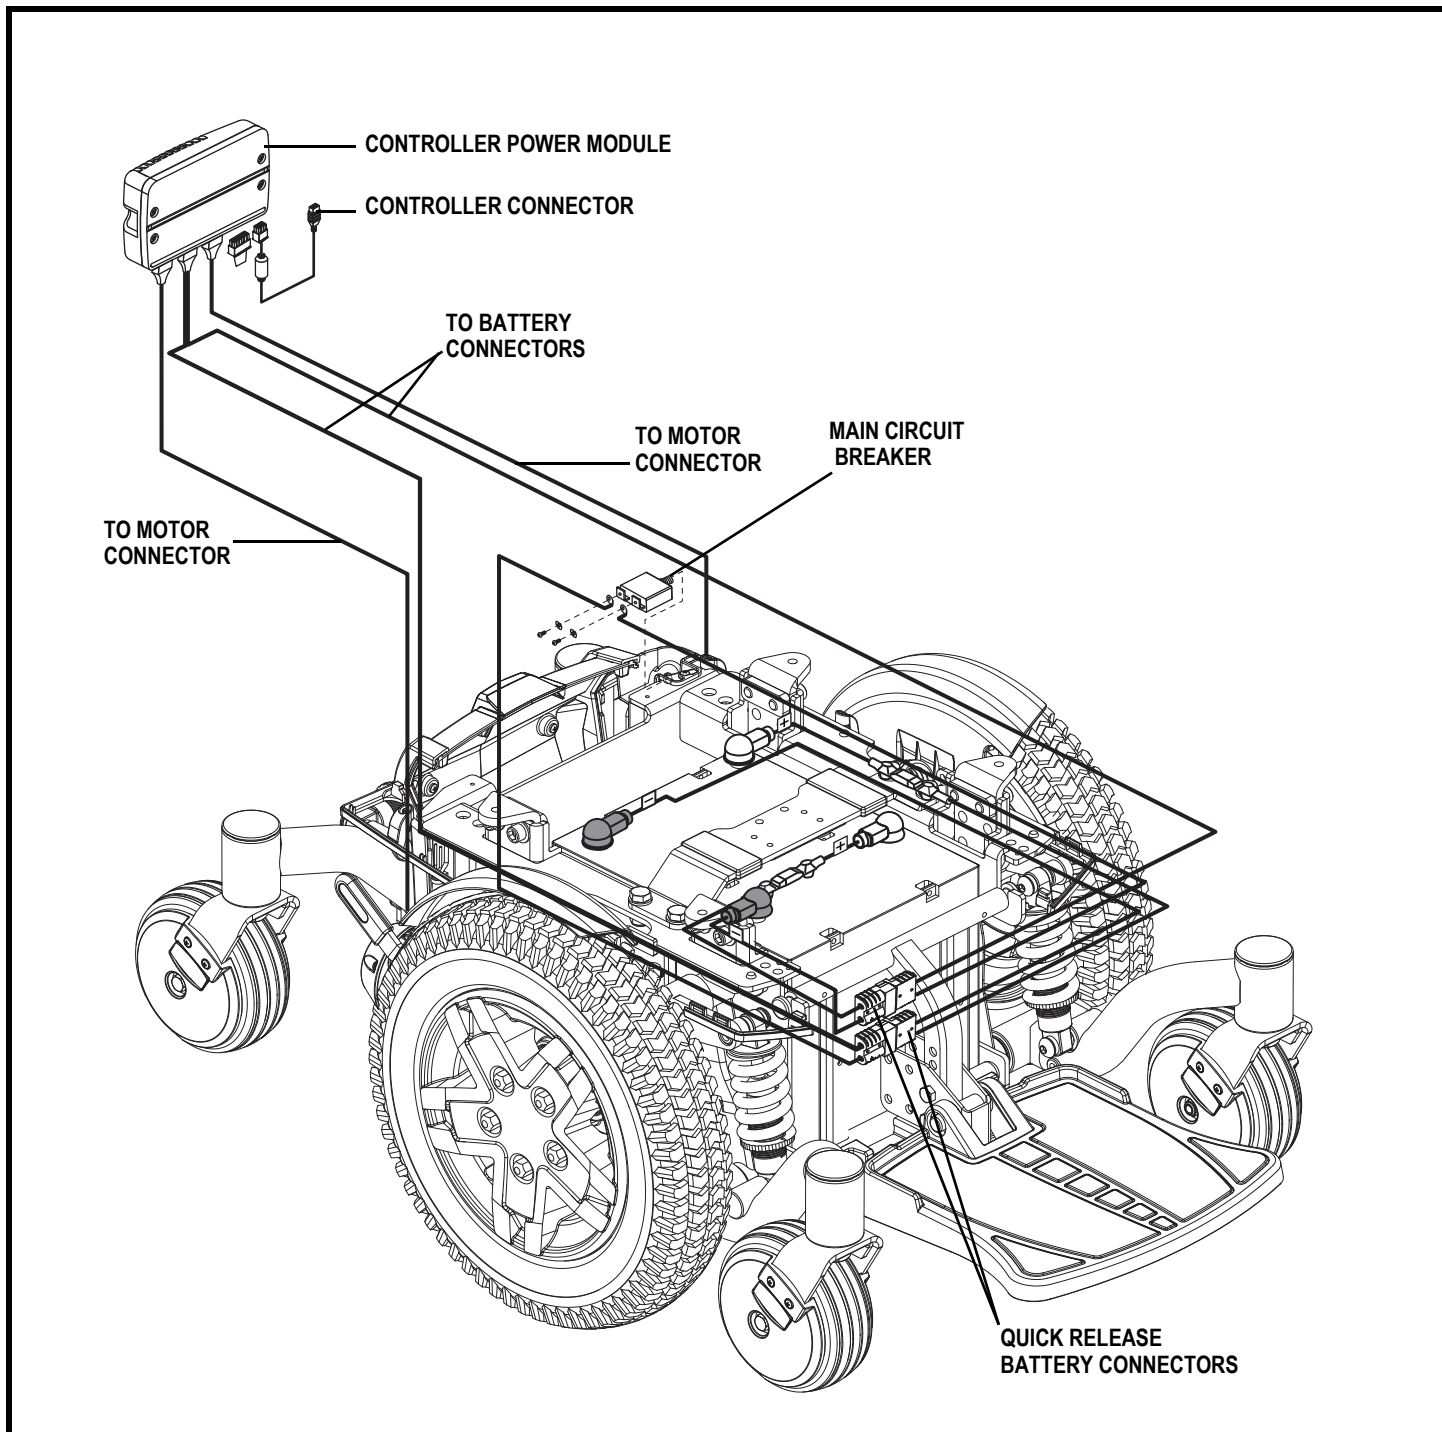

Figure 3. Jazzy 600 ES Electrical Components
The electrical components consist of the controller assembly, the batteries, and the motors. The batteries, motors, and controller power module (if equipped) are located on the power base assembly. The controller is located on the seat assembly. Connectivity between the controller and the motors, batteries, and the battery charger is provided by one or more wiring harnesses. **See figure 3.**
5. Plug the controller connector into the rear of the power base. See figure 3.
4. Plug the controller connector into the power base. See figure 3.
3. Unplug the controller connector(s) from the power base. See figure 3.